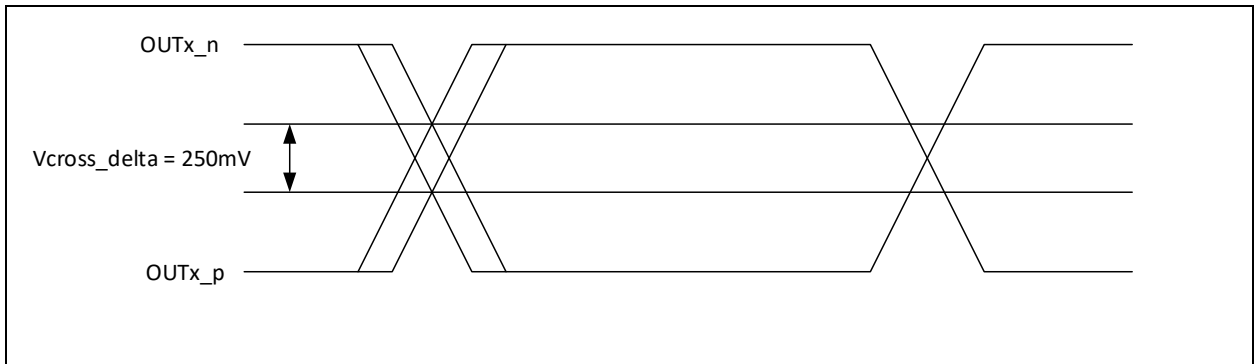
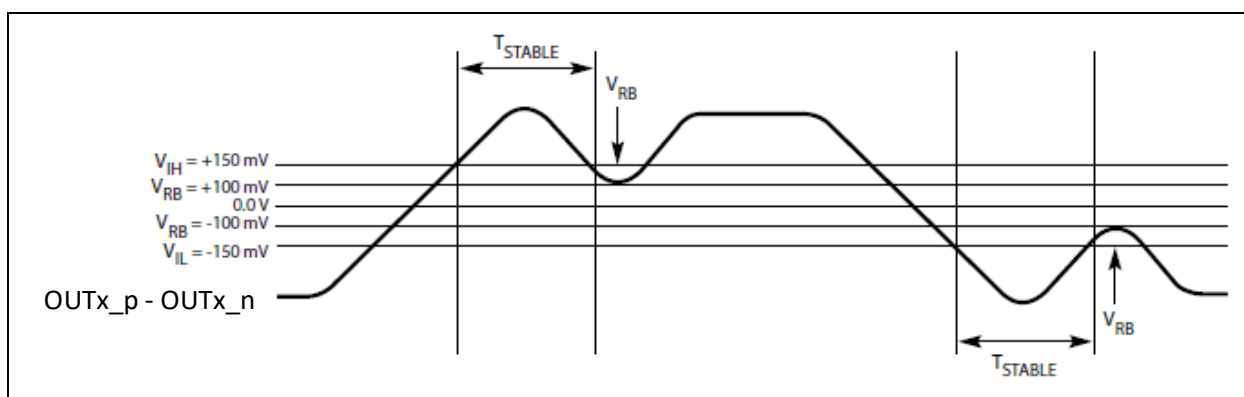

Figure 19. Single-Ended Measurement Points for Delta Cross Point
Figure 22. Differential Measurement Points for Ringback
(9) Defined as the total variation of all crossing voltages of Rising CK and Falling CK# This is the maximum allowed variance in V_{CROSS} for any particular system. See Figure 19.
(10) The PPM requirement from PCIe Express Base Specification, Revision 4.0 is related to clock generation devices. This requirement is not applicable to buffers because buffer's output frequency accuracy is identical to the frequency accuracy of the source driving the buffer.
(11) T_{STABLE} is the time the differential clock must maintain a minimum ±150 mV differential voltage after 20 rising/falling edges before it is allowed to droop back into the V_{RB} ±100 mV differential range. See Figure 22.